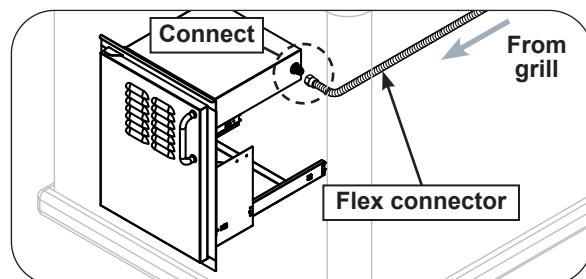

Fig. 1-2 Connect grill flex connector to unit
4. Connect the flex connector (coming from the already installed AOG grill) to the adapter found on the exterior of the door assembly. See Fig. 1-2.